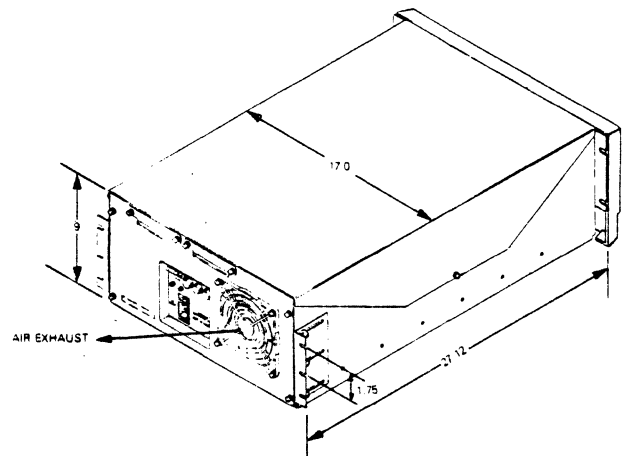

Figure 11-2. Rack Mounted (Fixed) Enclosure)
- Rack Mounted (Fixed) Enclosure (See Figure 11-2).